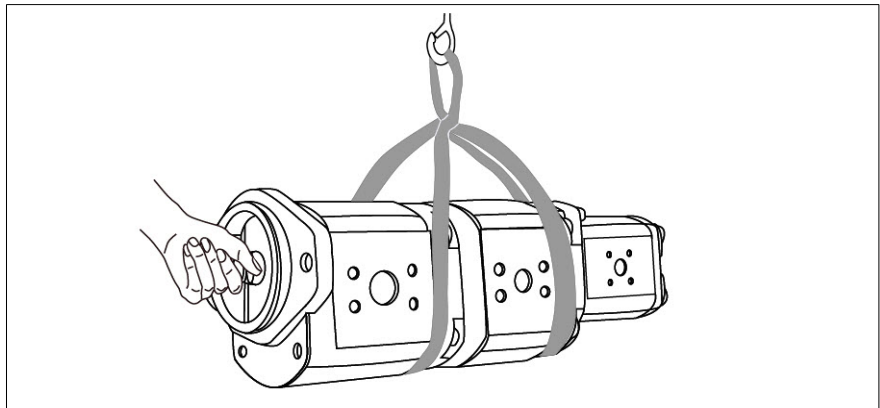

Fig. 5: Transport with lifting strap
- ▶ Place the lifting strap around the external gear unit in such a way that it passes over neither the assembled parts (e.g. valves) nor such that the external gear unit is hung from attachment parts (see Fig. 5).